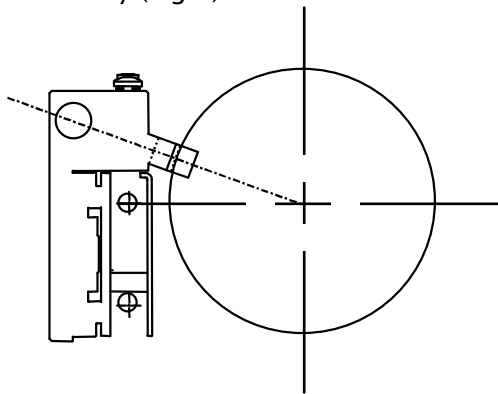

Fig. 1
1. Consult your customer drawing for mounting dimensions (Fig. 1).